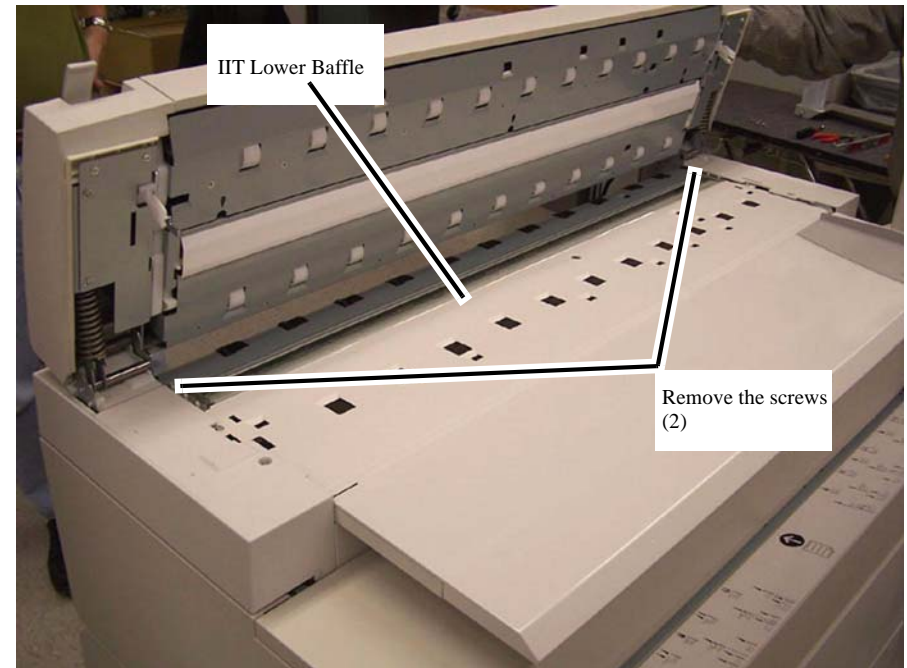

Figure 1 Front retaining screw locations
3. Remove the Rear Lower Baffle front retaining screws (2) (Figure 1).